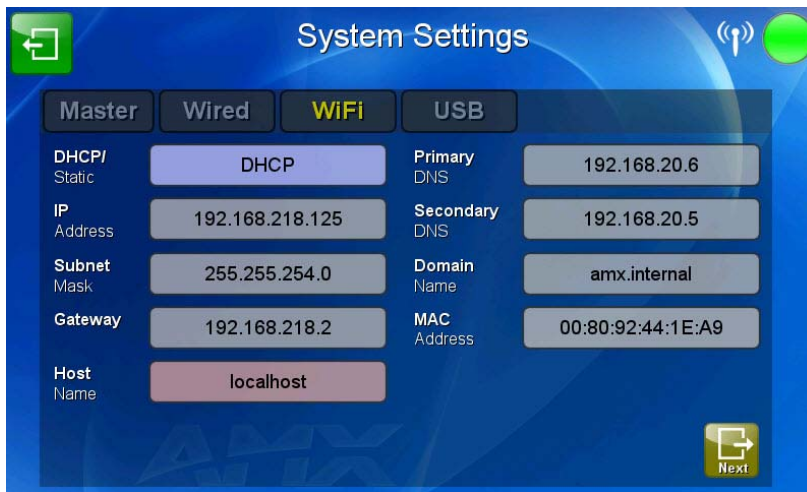

FIG. 23 System Settings page - WiFi tab
2. Select the *WiFi* tab (FIG. 23).
1. From the *Protected Setup* page, press the **Network** button to open the *System Settings* page. Wireless communication is set within the *WiFi* tab of this page (FIG. 23).